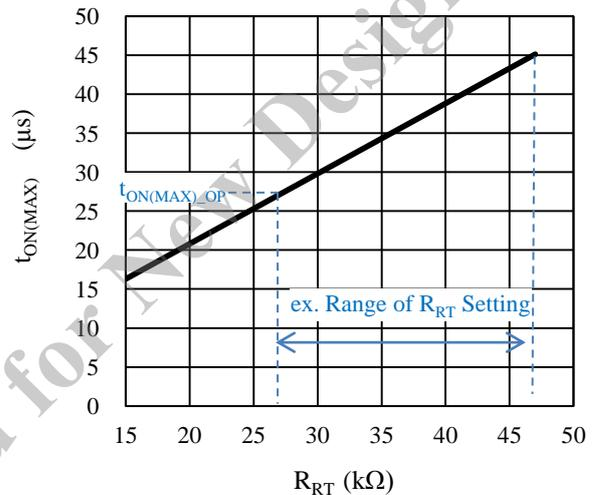

Figure 9-1 $t_{ON(MAX)}$ as a function of R_{RT} (IC design)
Figure 9-1 shows the relation between $t_{ON(MAX)}$ in IC design and R_{RT} value.
The R_{RT} value is set by using the result of $t_{ON(MAX)_OP}$ and Figure 9-1, where $t_{ON(MAX)_OP}$ is the maximum on-time of the peak voltage of the minimum AC input voltage.
Using Figure 9-1, R_{RT} should be set so as $t_{ON(MAX)}$ is larger than $t_{ON(MAX)_OP}$ that is calculated by Equation (5).